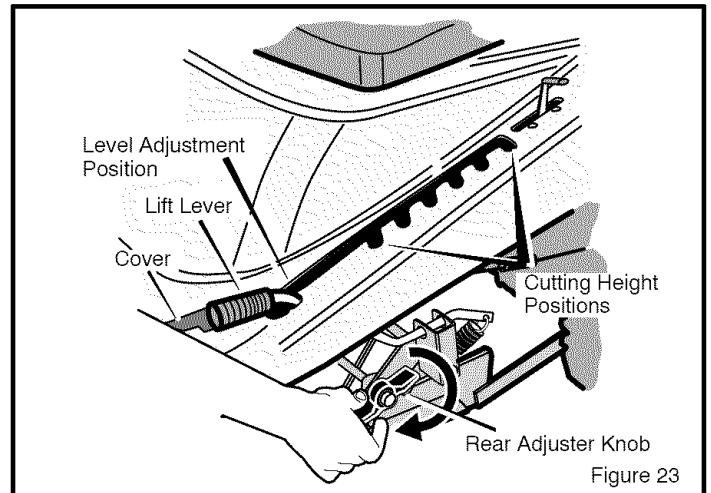
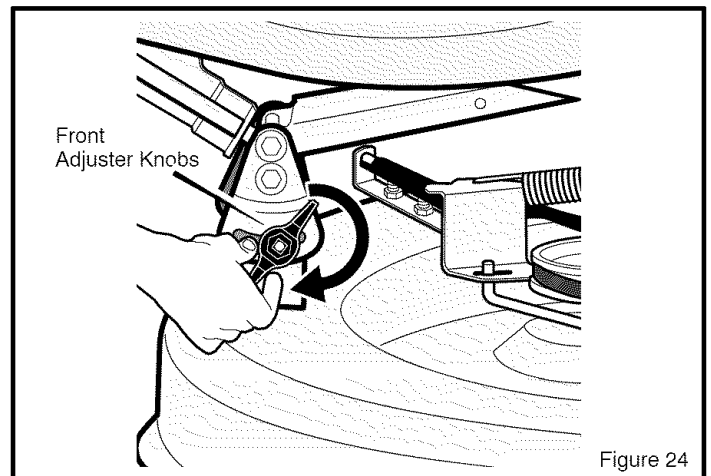

Figure 23
Figure 24
3. Open the **cover** (see Figure 23).
4. Move the **lift lever** to the LEVEL ADJUSTMENT position (see Figure 23).
5. Loosen the front and rear **adjuster knobs** (see Figure 23 and Figure 24). Make sure both sides of the mower housing are setting on a flat surface. Also, make sure the lift links and adjuster plates are loose and can easily move up or down.